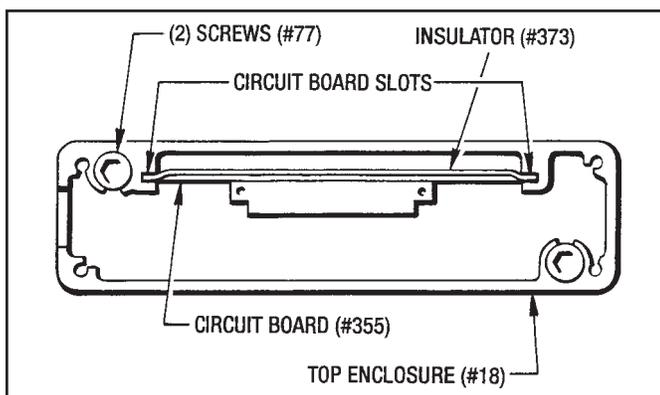

Figure 6.9 - Circuit Board Slots
8. While holding the Circuit Board upright slide the Upper Enclosure (#18) down over the Circuit Board onto the Disc Housing. Make sure the edges of the Circuit Board are in the (2) side retaining slots located in the Upper Enclosure. (See Figure 6.9)
The Coupling Elements have to be aligned with each other and the Coupling has to be centered between the two Gearboxes. (See Figures 6.9 and 6.10)